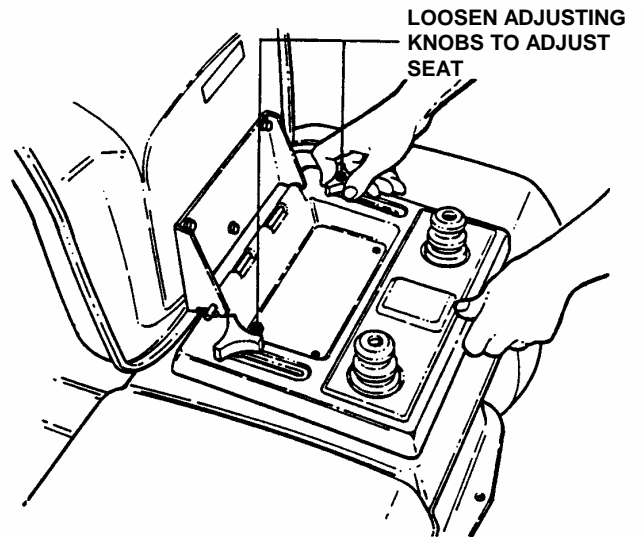

FIGURE 2.3
1. With the engine "OFF", raise operator's seat and loosen the two adjusting knobs on the seat support. Lower the seat. Sit in the operator's seat and slide the seat forward or backward until the clutch/brake pedal can be fully depressed comfortably. Raise seat and tighten the adjusting knobs to secure seat in position. See Figure 2.3.